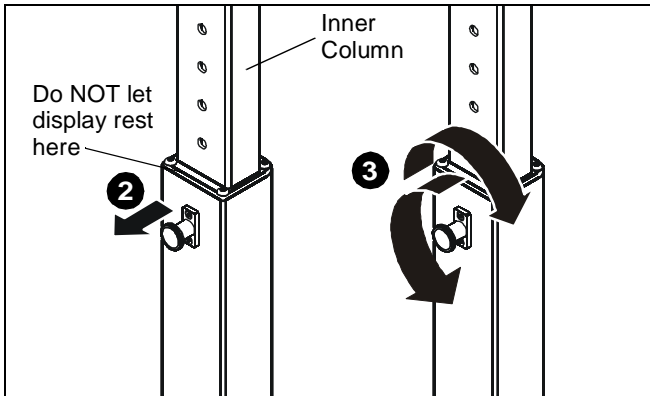

Figure 11
2. Adjust the stand to the desired height by slightly lifting the head assembly, pulling out knob on the center post and turning 90° in either direction to disengage the locking mechanism. (See Figure 11)
3. Raise or lower the center post, then turn the knob 90° either direction to engage the knob and lock the stand at desired height. (See Figure 11)
IMPORTANT ! : Set the height of the stand so the display does NOT rest on the lower part of the center post. (See Figure 11) Always set the height so the knob is engaged in a hole in the center post.